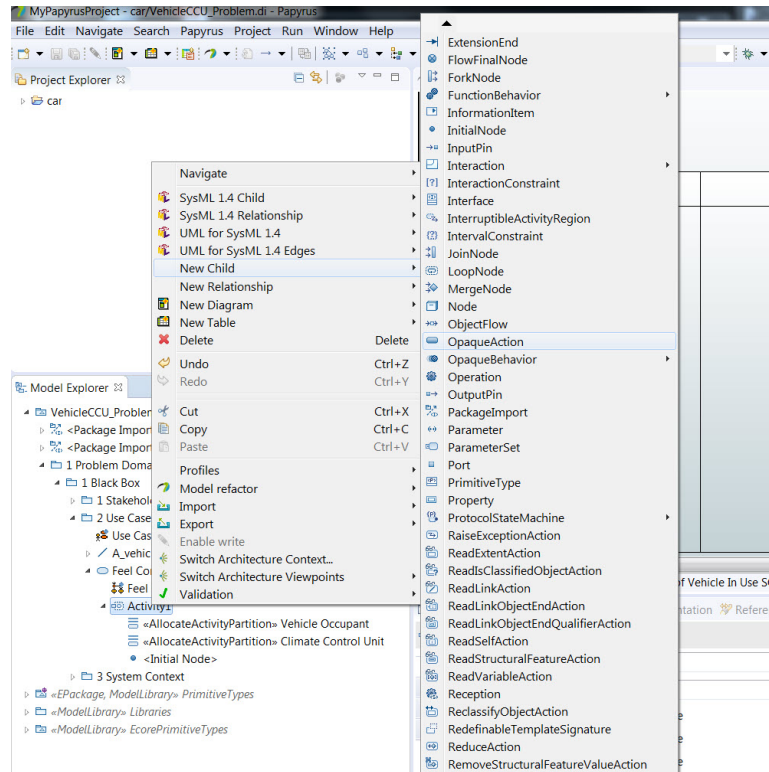

Figure 46: Create Opaque Action
16. Now we will start creating our sequence of actions. Right-click *Activity1* in the *Model Explorer* window and select **New Child** and in the pop-up window scroll down until you find **Opaque Action** and select it (figure 46). Type **Turn On Climate Control** for the name and then press *Enter*. The *Turn On Climate Control* action now appears